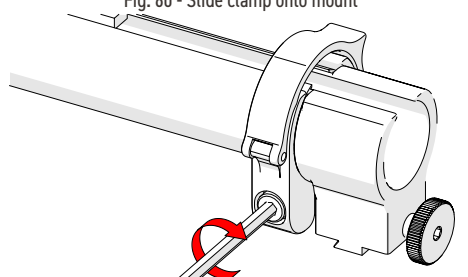

Fig. 61 - Tighten clamp screw
4. Tighten the clamp screw (Fig. 61).